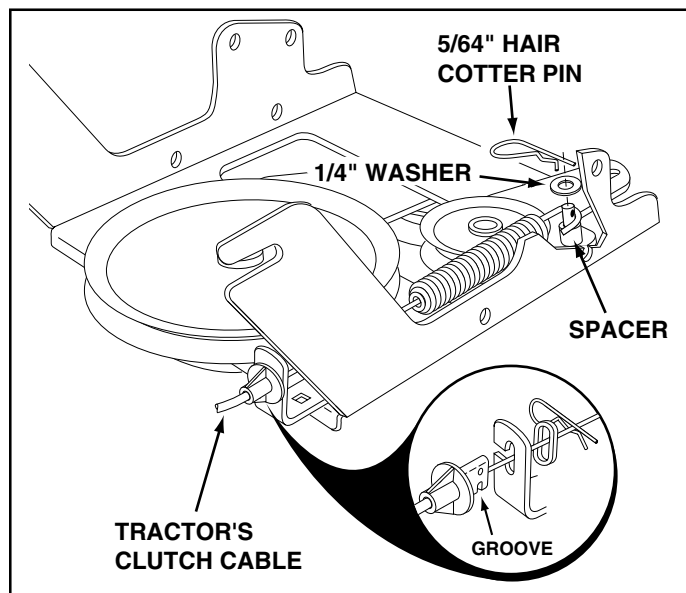

FIGURE 16
- Attach the tractor's clutch cable to the cable bracket. Secure the cable housing guide (groove down) to the cable bracket using the original collar and retainer spring removed from the mower deck. See figure 16.
- Place a spacer on the welded pin on the idler arm. Hook the end of the clutch spring over the pin and secure it with a 1/4" washer and a 5/64" hair cotter pin. See figure 16.